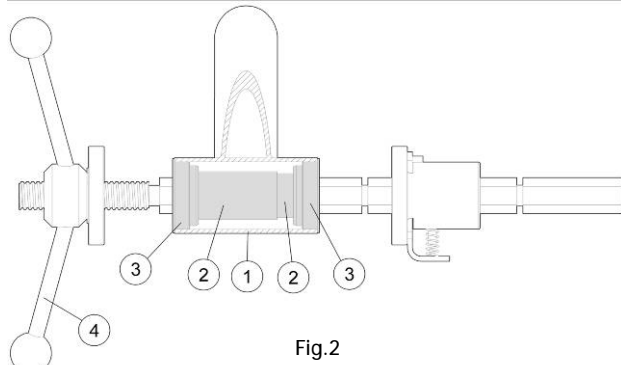

Fig.2
5. Using the Headset Press tool ④ press the bearing cups ③ with Plastic Center Sleeve ② into the BB shell. Tighten until the thrust face of the Bearing Cup ③ is flush with the outer face of the Bottom Bracket shell ① (Fig.2). Note: Be certain that the bearing cups and tool faces are aligned and square otherwise damage to the plastic covers and bottom bracket shell may occur.